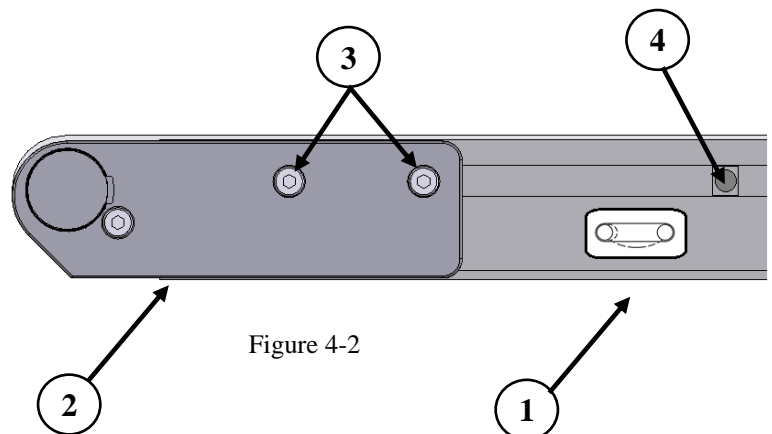

Figure 4-2
The belt tension can be adjusted on the end of the Conveyor identified with the label shown (See Figure 4-2, item 1).
Release the Head Plate Assembly (Figure 4-2, item 2) by loosening the Fastening Screws (Figure 4-2, item 3) on both sides of the Conveyor. Next, rotate the Pinion Gear (Figure 4-2, item 4) to adjust head plate assembly.
After adjusting proper tensioning, tighten fastening screws (Figure 4-2, item 3) on both sides of Conveyor to 60 in-lb. (7 Nm).